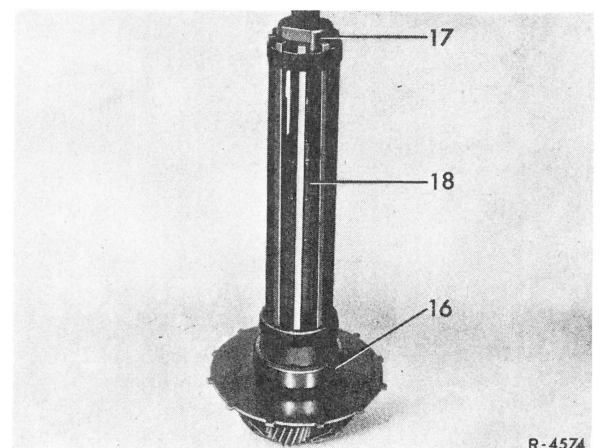

Fig. 12
15 Pull ball bearing (16) from output shaft (18) by means of puller (17) (Fig. 12).